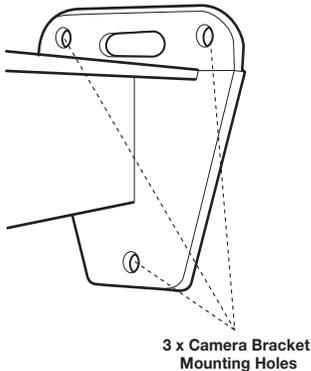

Fig. 1.
1. Use the camera's main bracket to mark out the x 3 mounting holes and cable connector's entry hole on the chosen location of the wall (Fig. 1).